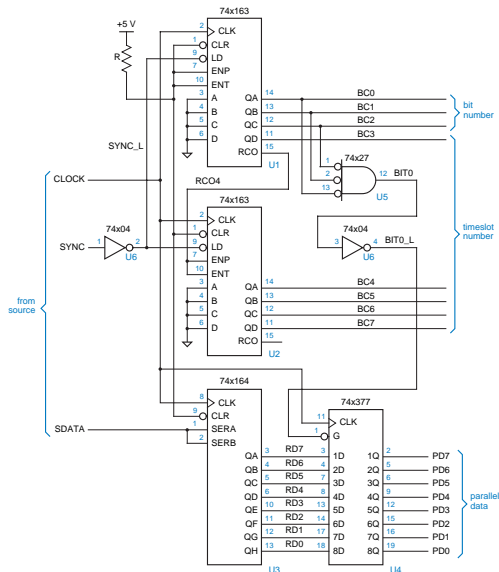

Figure 11: Serial-to-parallel conversion using a parallel-out shift register.
- A destination module can convert serial data back into parallel format using circuit of Fig. 11
- Fig. 11